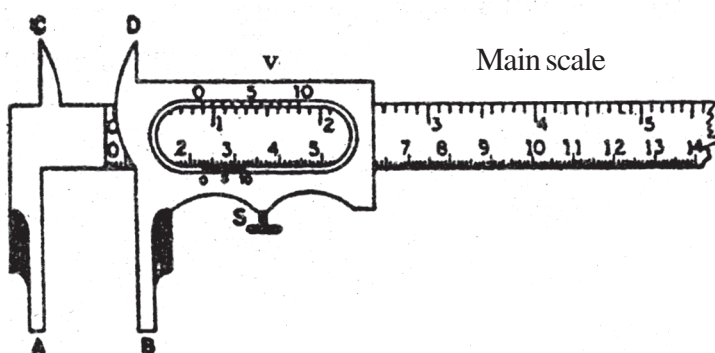

Fig. 1.1: Vernier Callipers
- (viii) To measure the internal diameter of the calorimeter, place the vernier callipers with the upper jaws inside the calorimeter as shown in the diagram (Fig. 1.1). *The upper jaws of the vernier callipers should firmly touch the ends of a diameter of the calorimeter, but without deforming the calorimeter.*